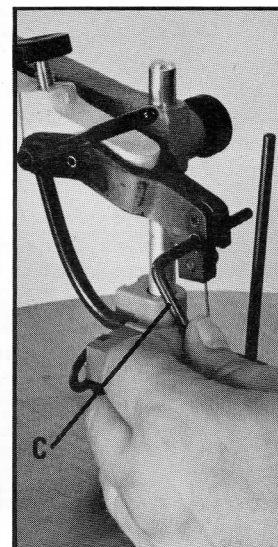

Fig. 15
3. Insert pin (C) in hole in upper blade holder, as shown in Fig. 15.